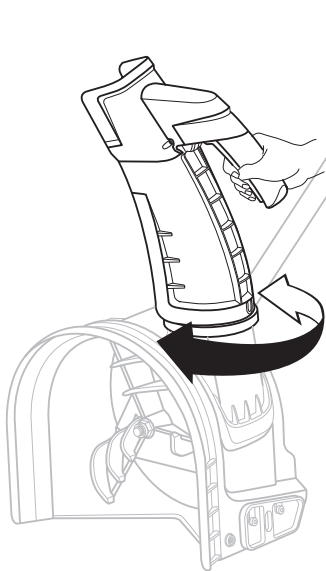

Fig. 9A
2. Rotate the handle to the left or right to change the snow discharge direction. (Fig.9A)